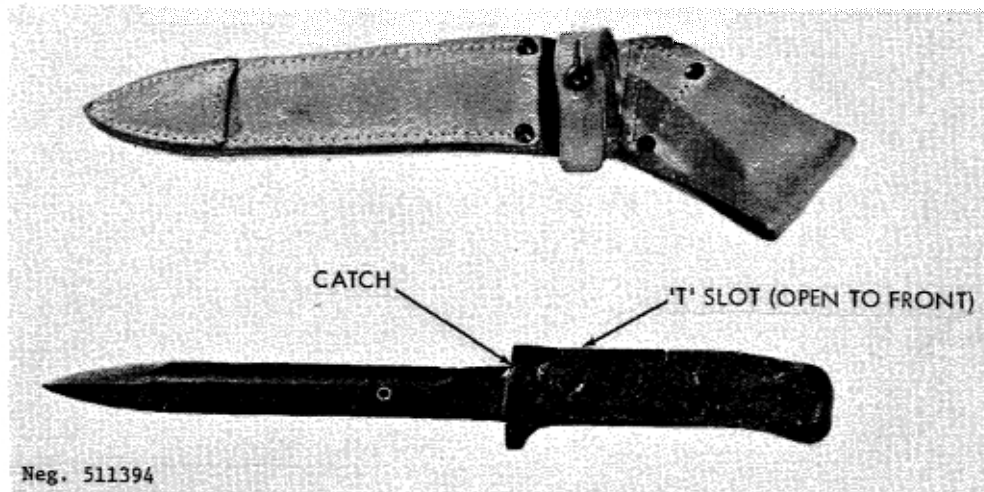

Figure 95. M58 bayonet and scabbard.
- (1) Sling.
- (2) Bayonet and scabbard (fig 95).
c. The bayonet is attached by sliding it forward onto the dovetail under the front sight base until the bayonet catch locks into place. The bayonet is removed by pressing its catch (fig 95) and sliding it rearward off the rifle.